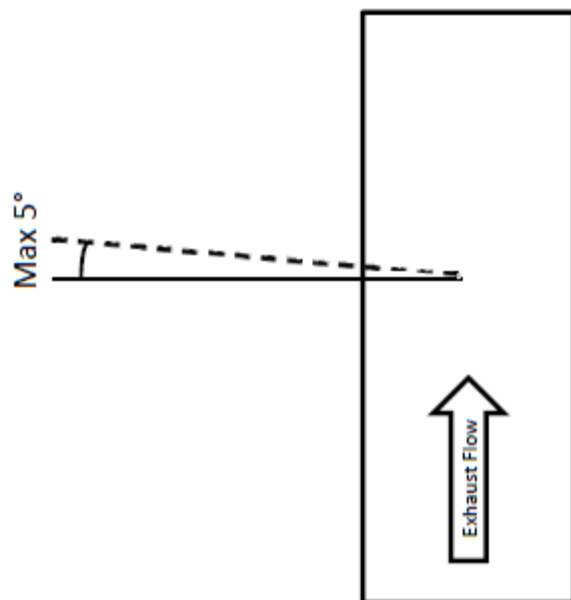

Figure 2-4. StableSense HEGO Exhaust Vertical Mounting
- For vertical mount, ensure that sensor is not directed greater than 5° facing into the exhaust stream (see Figure 2-4).